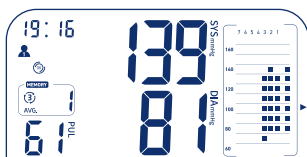

Figure 5
- If the last measurement performed was a triple measurement, the average value of the triple measurement is indicated with "AVG" and the triple measurement symbol. The average value of a triple measurement is calculated from the last two measurements. The result of the first measurement is disregarded during the calculation. The bar chart shows the average value of the triple measurement in the right-hand column. Columns 1-3 show the results of the individual measurements (Figure 5).